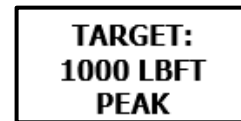

Figure 4.5-1: Target Mode
If "Target PASS/FAIL Enable" is enabled within Configuration, a "PASS" or "FAIL" message will be displayed on the display after a torque cycle. The result of the torque cycle is determined by the target torque and tolerance set up during pre-deployment configuration. The Smart Socket must be in Peak Mode to operate with Target Mode enabled (see Section 4.3 – Measurement Method). The Smart Socket will display as in Figure 4.5-1 indicating that Target Mode is enabled.
2. Set the target torque of the torque tool to the same as the target torque on the Smart Socket as shown in Figure 4.5-1.